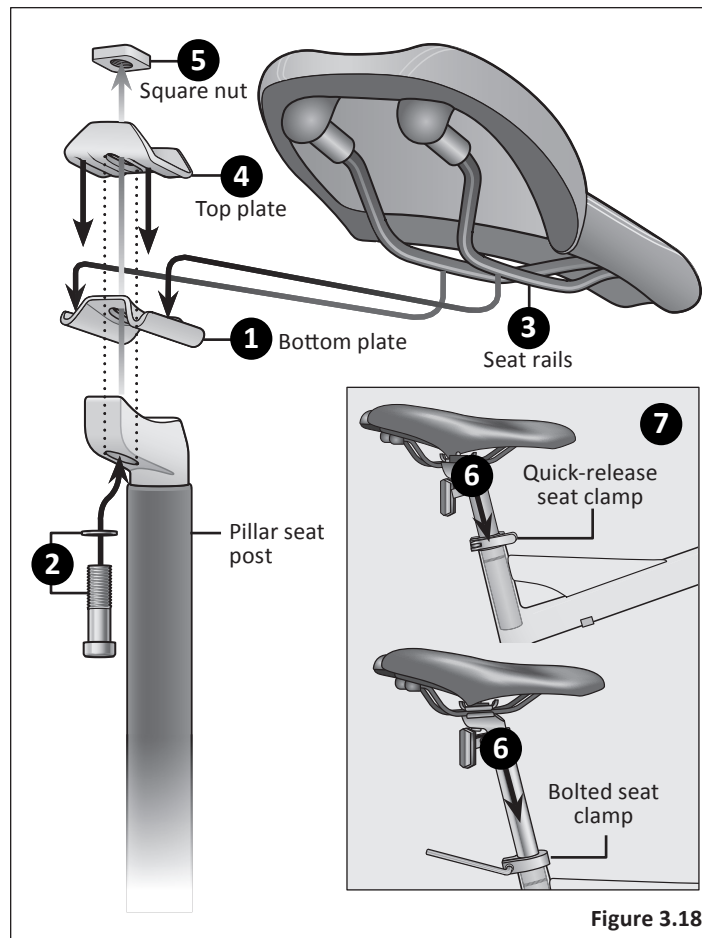

Figure 3.18
- 1 Place the bottom plate on the pillar seat post. Be sure the holes in the bottom plate and the holes in the seat post are aligned. **Figure 3.18**